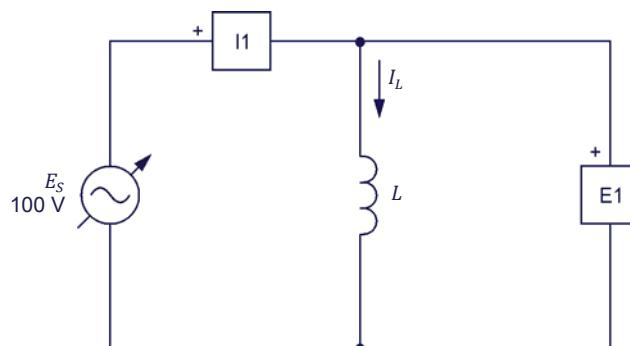

Figure 2-4. AC circuit containing an inductor.
- Set up the circuit shown in Figure 2-4.
The value of the inductance  $L$  to be used in the circuit of Figure 2-4 depends on the frequency of the ac power source, as indicated in Table 2-1.